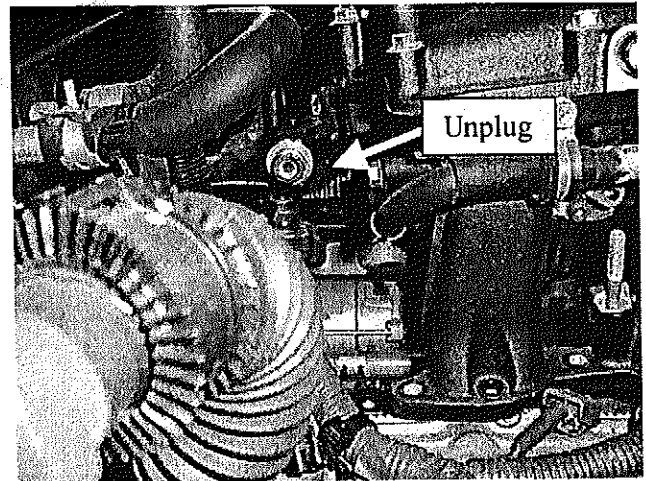

Figure 16
26. Carefully lift and pull the supercharger slightly toward the front of the engine to gain access to the auxiliary injector connector(s) on the back of the supercharger. Unplug the connector(s) (Figure 16).